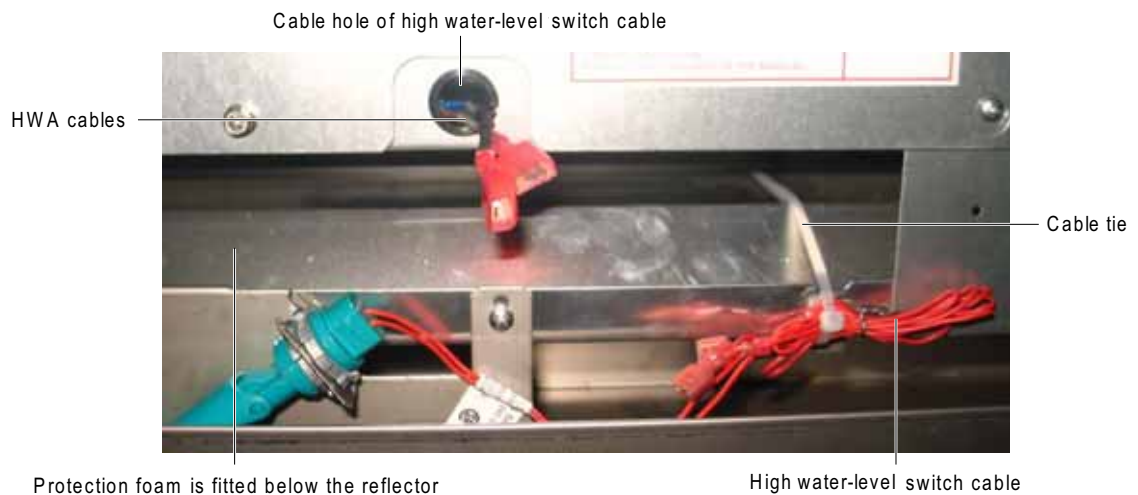
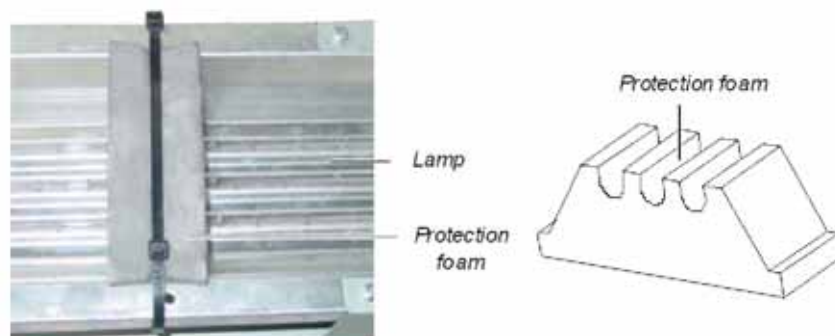

Figure 2-36 Removing protection foam 1
Figure 2-37 Removing protection foam 2
1. Cut the cable tie and remove the protection foam fixed under the lamp, as shown in Figure 2-36 and Figure 2-37.